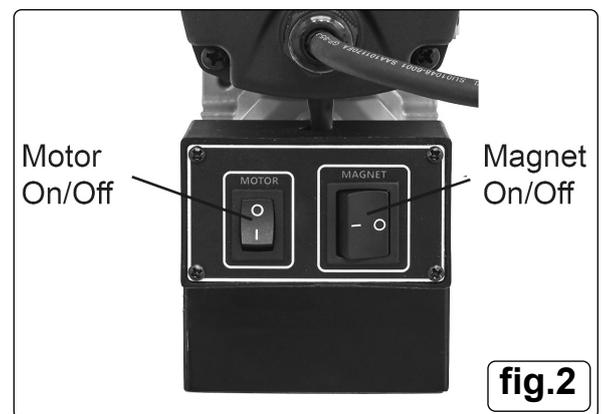

fig.2
- 5.3.1. Turn the magnet on (fig.2). Wind the drill head down to the workpiece and align the cutting head pin (not supplied).
- 5.6.1. Back the cutting head away from the workpiece, turn the drill motor on (fig.2). Check the drill sounds and is operating normally.